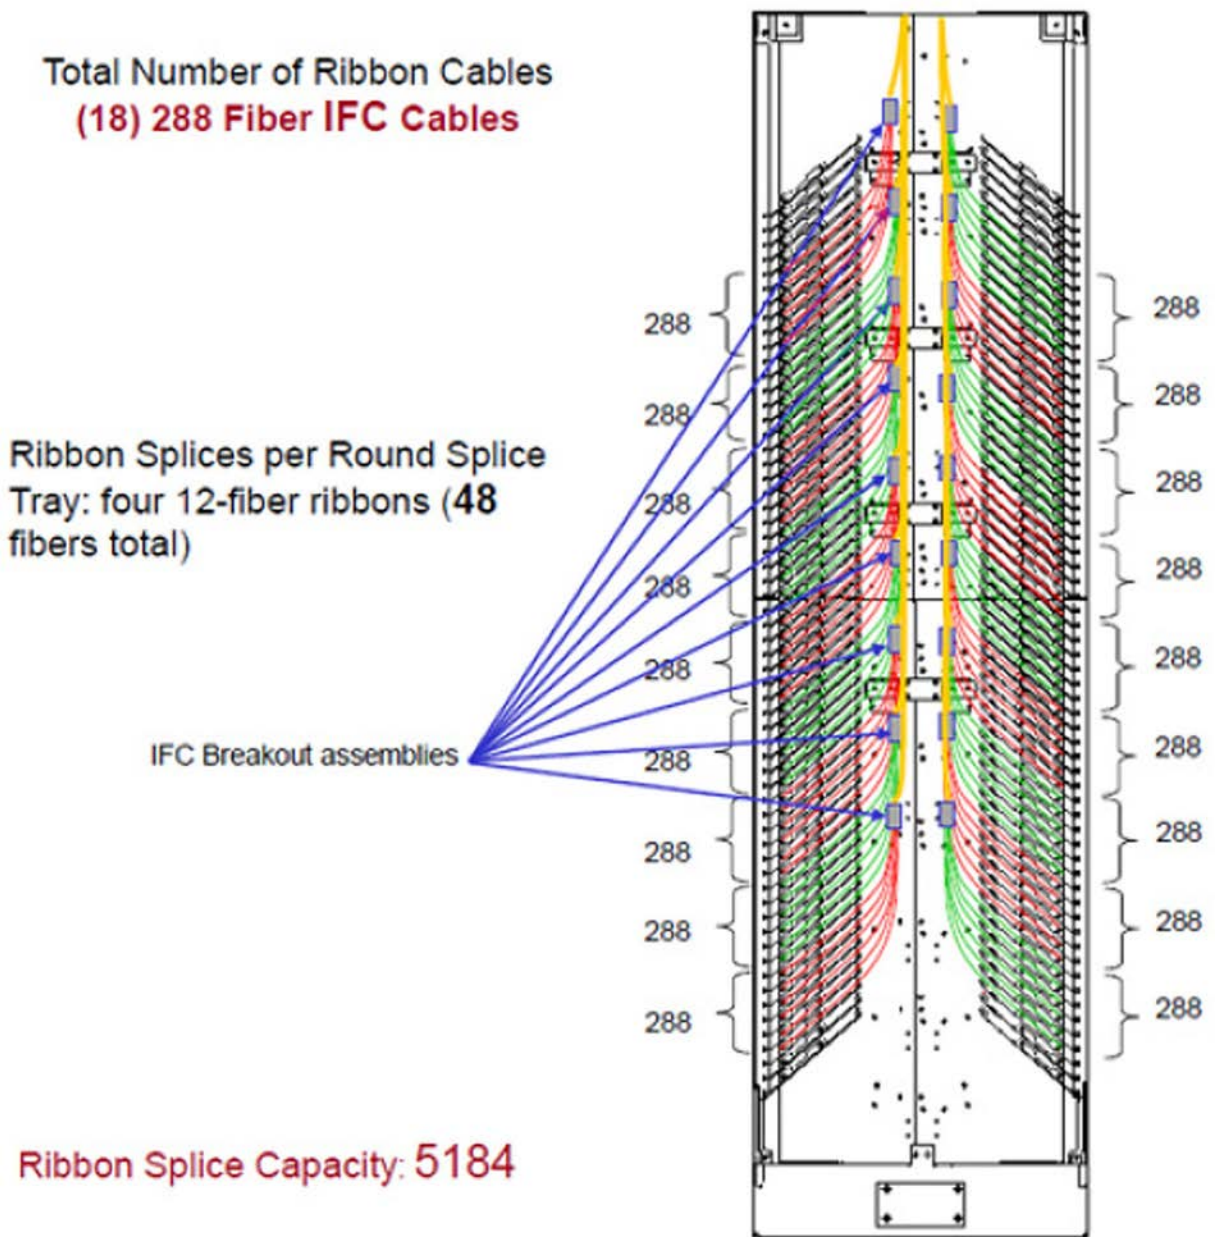

Figure 38. IFC Breakout Assemblies
8. Complete the IFC routing per Figure 38,